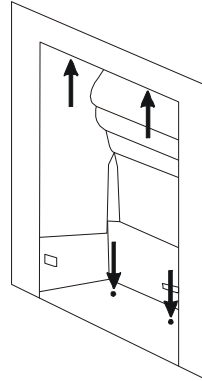

Figure 56 - Fixing Positions
7. Replace the fire in the box and secure the box to the hearth with two screws. Press the top flange firmly and tighten the two fixing screws located behind the flange (see **Figure 56**). If the two top screws are too long, cut the excess off.